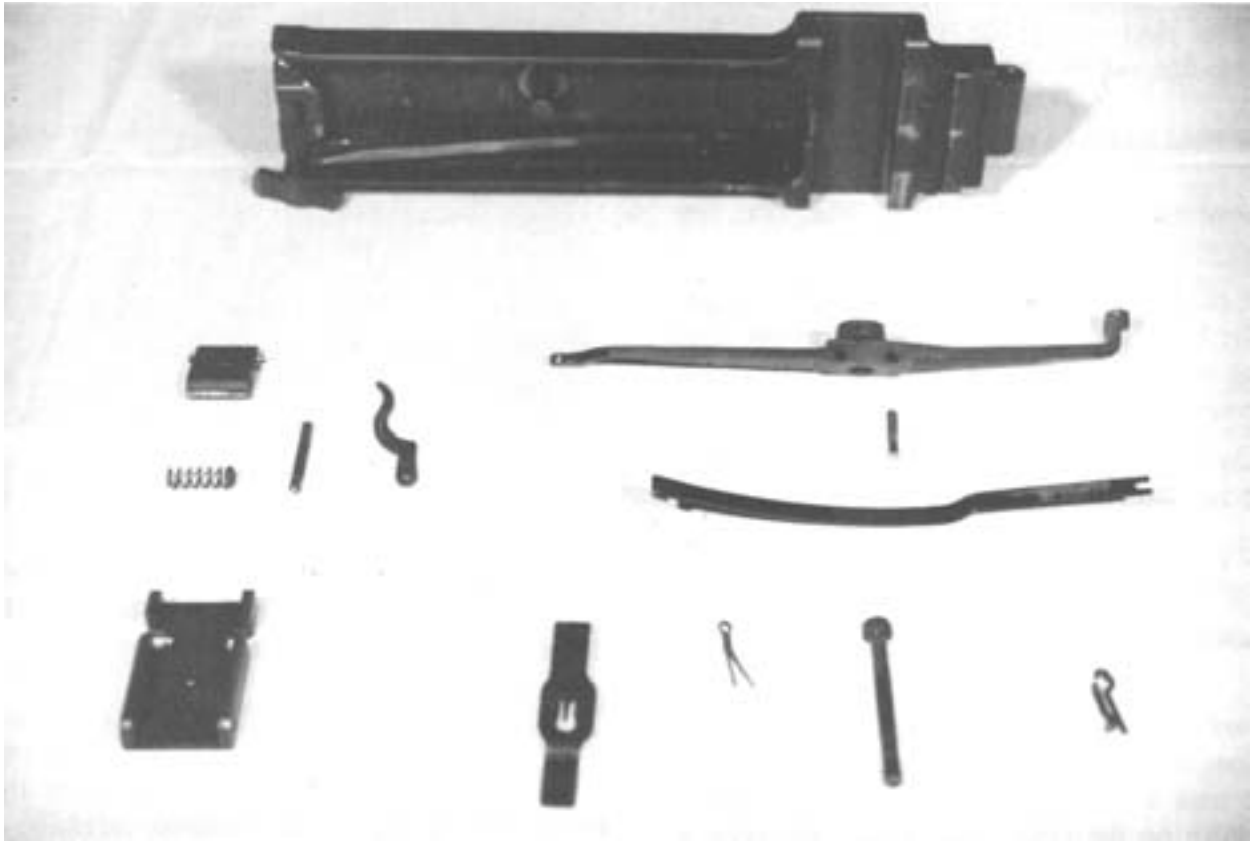

Figure 4-36. The Cover Group, Exploded View.
(1) Detailed disassembly. See figure 4-36.